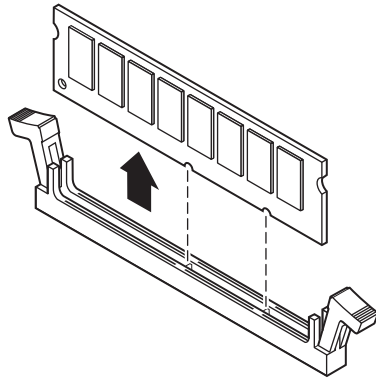

Figure 17: Removing the DIMM
2. Carefully lift the DIMM out of the socket (see Figure 17).